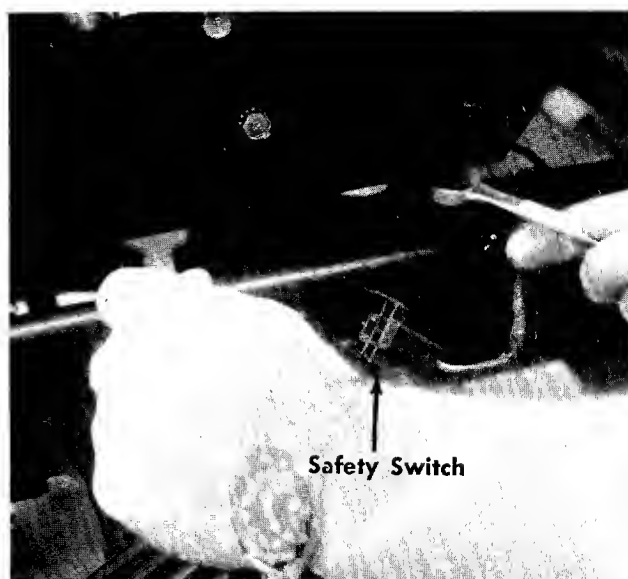

FIGURE 11. BELT GUARD REMOVAL
- h. Unplug the safety switch. See figure 11.
- i. Remove the two bottom bolts on the belt guard. Lift off the belt guard. See figure 11.